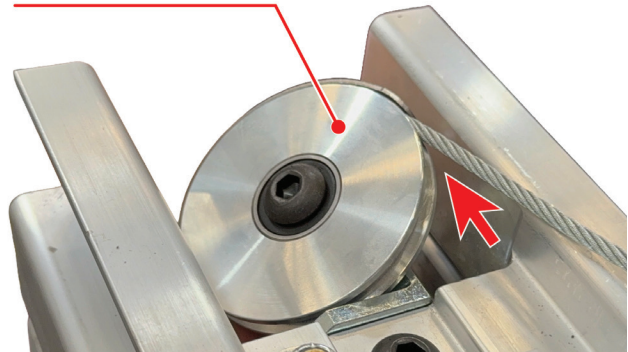

Figure 4-15: Loading Cable to Top Pulley
26. Feed the cut end of the cable into and around the second mast's top pulley (see Figure 4-15).
35. Feed the cut end of the cable into and around the third mast's top pulley (see Figure 4-15).
44. Feed the cut end of the cable into and around the rear mast's top pulley (see Figure 4-15). Pull the slack from the cable.